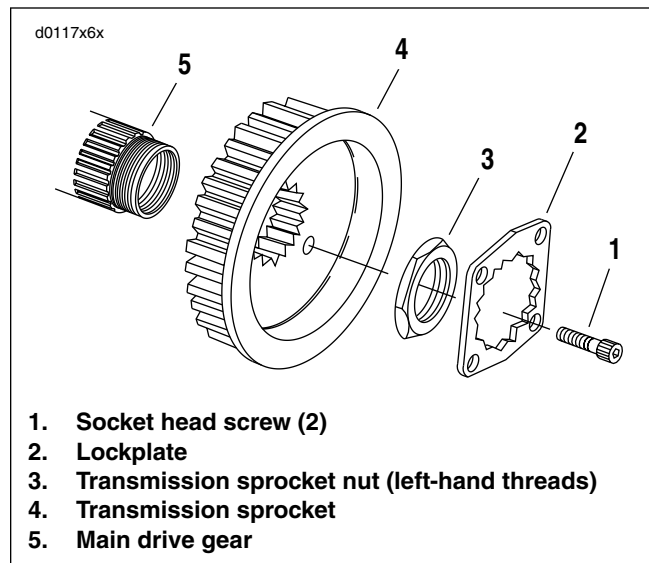

Figure 6-100. Transmission Sprocket
8. See Figure 6-100. Place transmission in first gear. Remove two socket head screws (1) and lockplate (2).
1. See Figure 6-100. Install transmission sprocket (4) with secondary drive belt onto main drive gear (5).
3. Apply a few drops of LOCTITE 262 (red) to the **left-hand threads** of transmission sprocket nut (3) and lightly coat the washer-faced side with clean H-D 20W50 engine oil. Wipe off any excess oil.
9. See Figure 6-100. Install lockplate over nut so that two of lockplate's four drilled holes (diagonally opposite) align with sprocket's two tapped holes.
10. See Figure 6-100. Install two socket head screws through aligned holes of lockplate and into tapped holes of sprocket. Tighten to 90-110 **in-lbs** (10.2-12.4 Nm).
See Figure 6-100. The original equipment socket head screws (1) have thread-locking compound applied to them. Since this compound remains effective for about three removal/installation cycles, the original screws may be reused up to three times. After the third removal/installation cycle, replace both screws with **new** screws identical to the original.